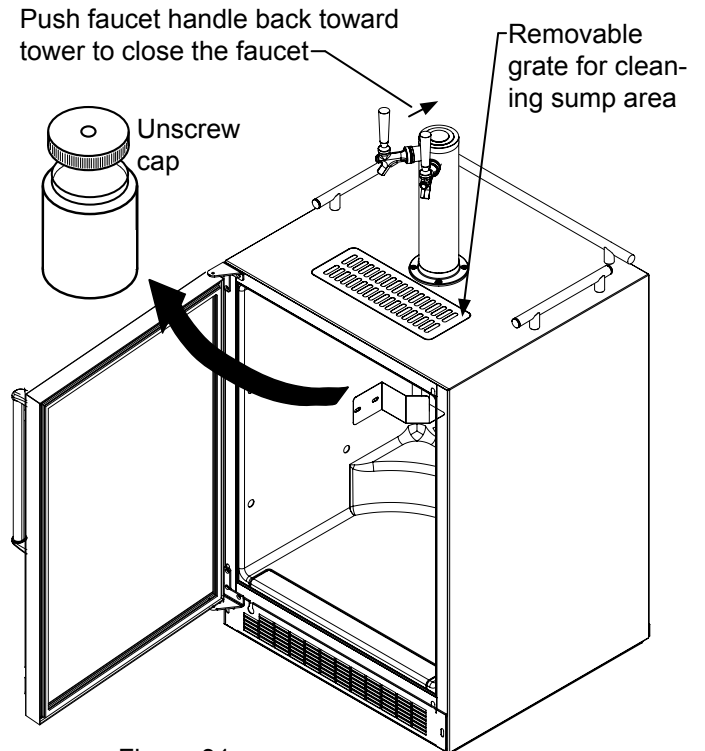

Figure 31
2. Be sure the faucet handle is closed on the tower (see Figure 31).
On a **free standing kegerator** remove the grate from in front of the tower, clean with soap and water and dry before reinstalling. Clean the sump area with soapy water and dry. (See figure 31).
Turn off the gas supply with the shutoff valve under the regulator (see Figure 31) and open the faucet to relieve the pressure. To remove the faucet from the tower use the spanner wrench provided. Place the pin on the wrench into the hole on the faucet collar and turn clockwise \curvearrowright to remove the faucet. (See Figure 35).